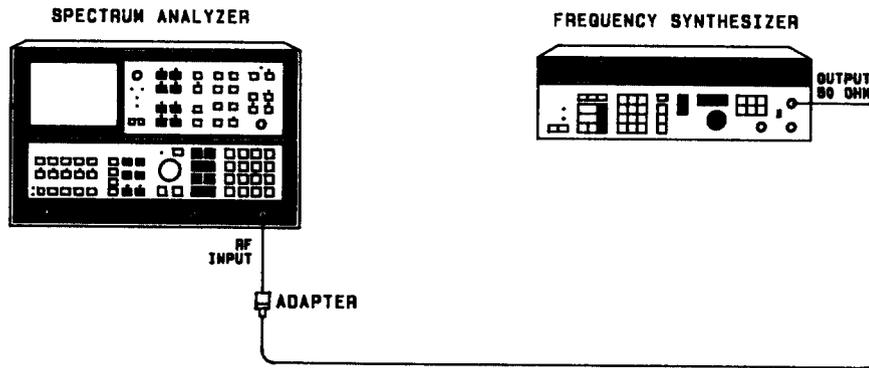

FIGURE 16. FREQUENCY RESPONSE TEST SETUP (0 Hz TO 4 MHz)
- 19. Connect equipment as shown in Figure 16.